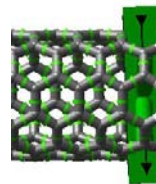

Figure 17
9. Click Simulation → Linear Motor to attach a linear motor. A box will pop-up that lets you adjust the linear motor properties. Just click OK to close it. Click Move → Rotate and click and drag the linear motor until the arrow on it points downward. The arrow now points in the direction that the force will be applied. (Figure 17).